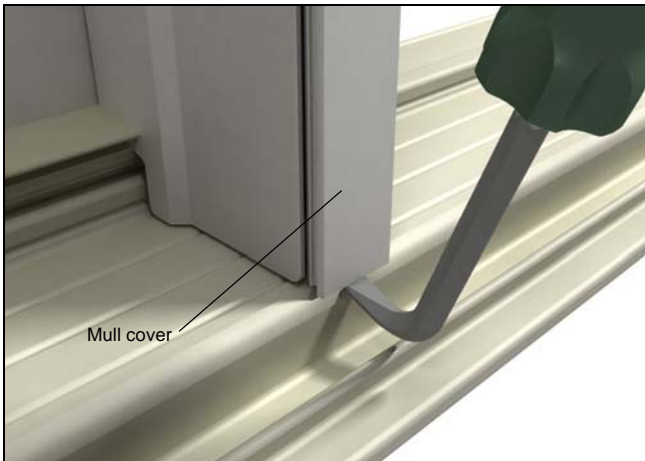

Figure 8
3. If replacing a wood stationary panel skip to step 5. Remove clad mullion casing cover by hooking a bent screwdriver, similar tool, at one end of the cover. Gently pry off the cover if it is to be reused. See figure 8.